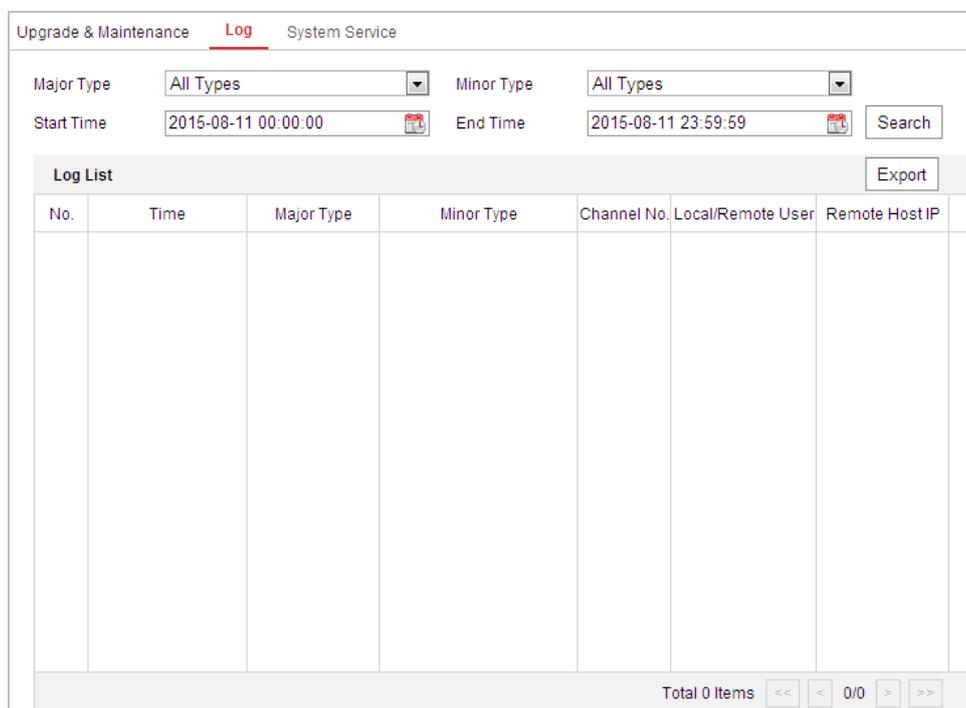

Figure 7-11 Log Searching Interface
- Set the log search conditions to specify the search, including the Major Type, Minor Type, Start Time and End Time as shown in Figure 7-11.